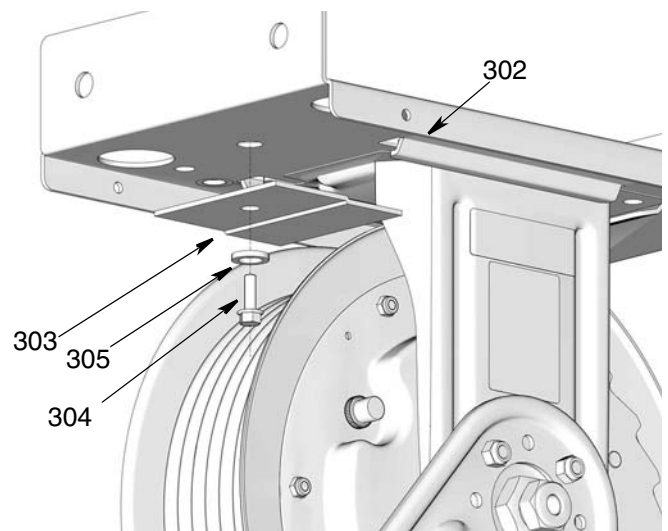

FIG. 2
4. Install hold down plate (303) using screw (304) and washer (305) (FIG. 2).